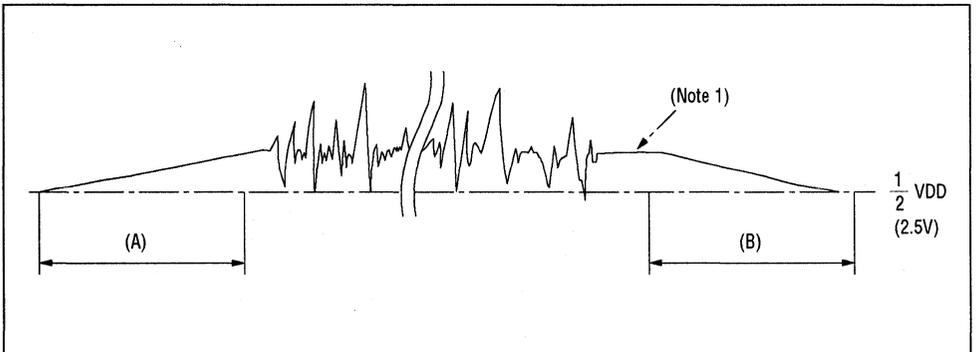

Figure 8 Waveform the DA Converter
To put it concretely, by adding data before or after the current ADPCM data (voice data), the waveform center can be shifted as shown in Figure 8.
When (A) is added before voice data and (B) is added after the voice data, the output waveform is as shown in Figure 8.